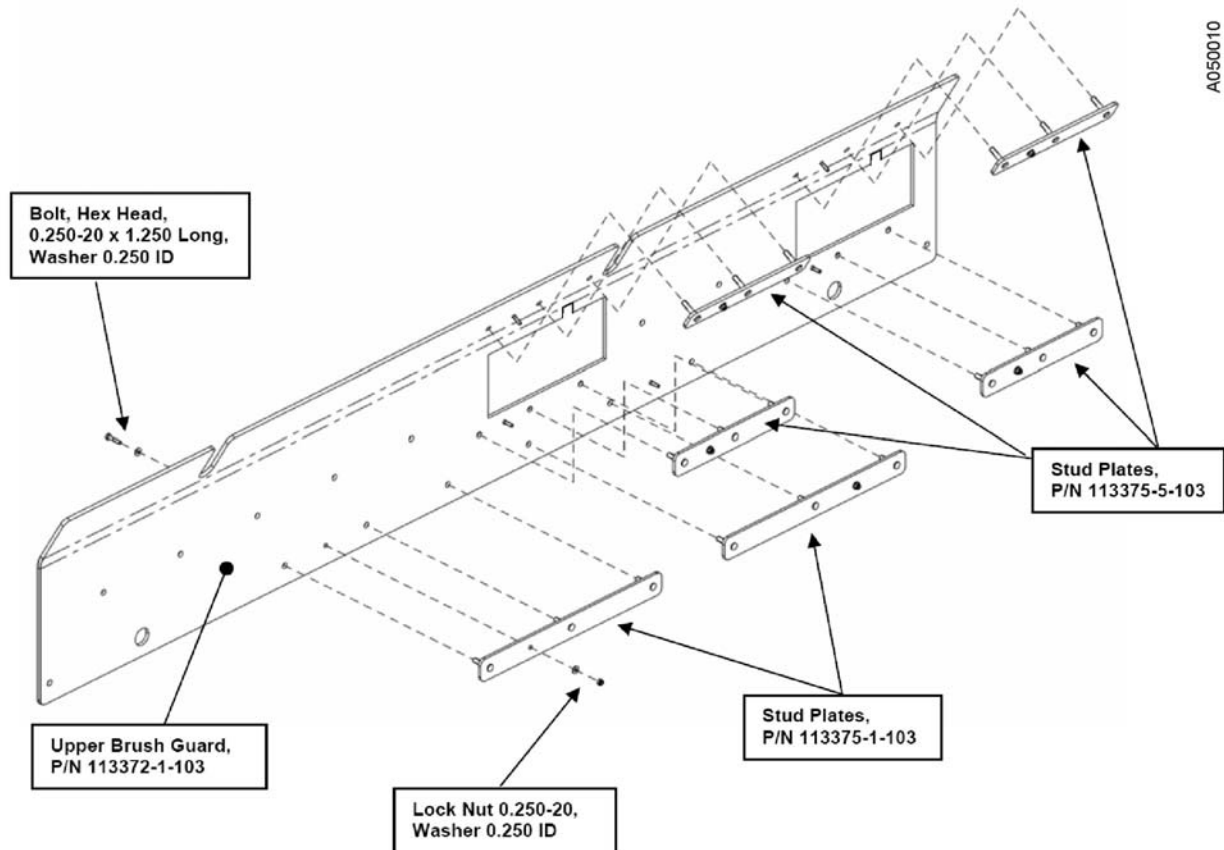

Figure 46. The Upper Brush Guard Assembly.
- a) Install the Six Stud Plates to the Upper Brush Guard (P/N 113372-1-103) using the hardware shown in Figure 46.